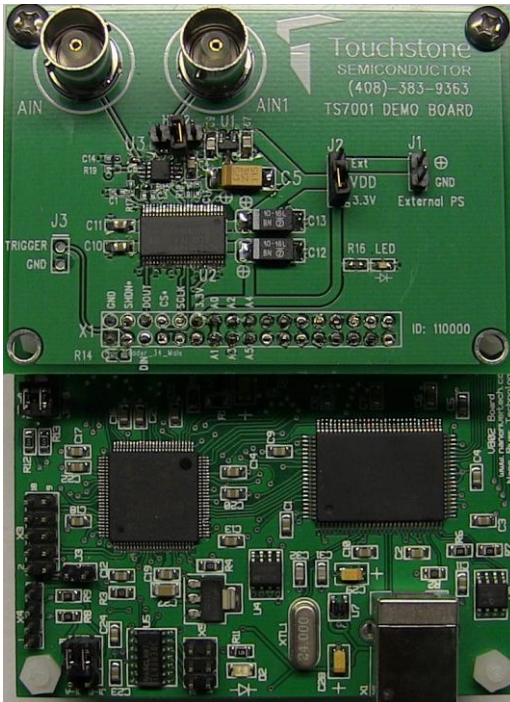
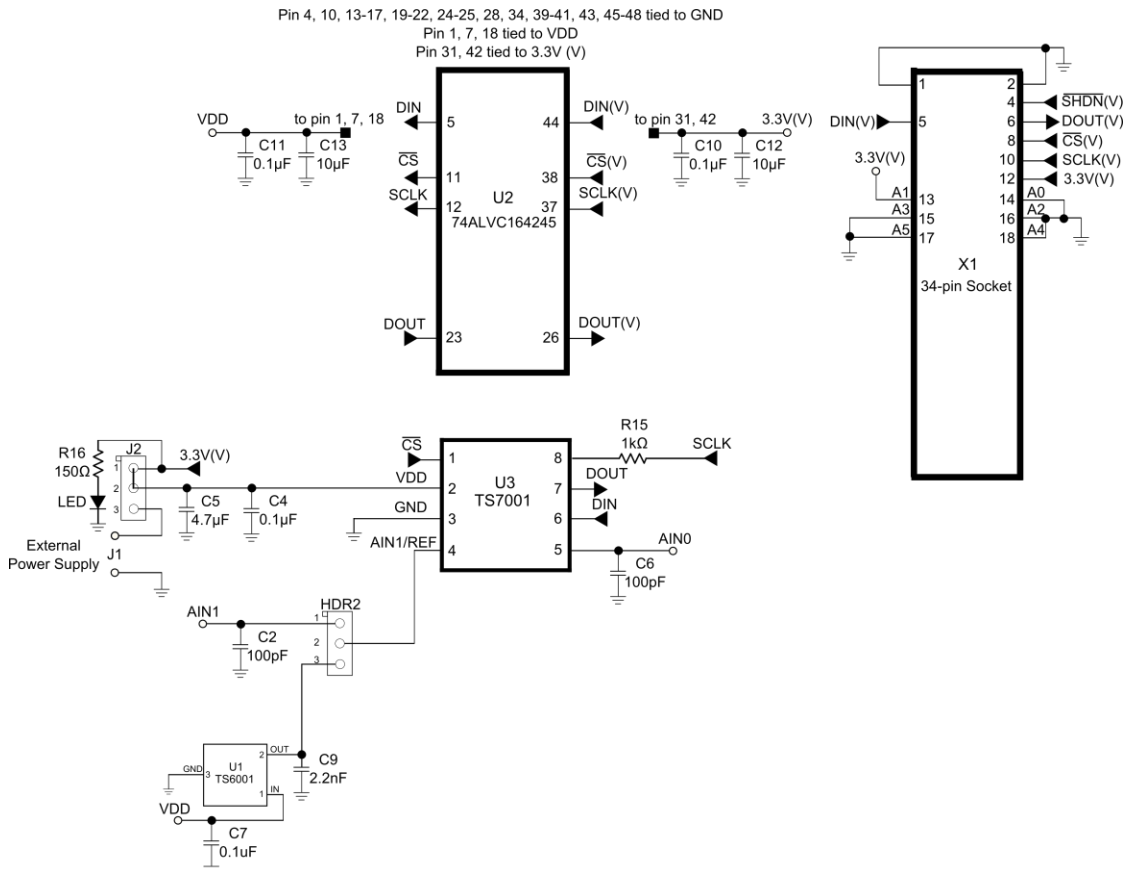

Figure 1. TS7001 Evaluation Board with Viperboard
Figure 5. TS7001 Evaluation Board Circuit
Figure 5 shows the TS7001 demo board schematic, Figure 2 and Figure 3 show a picture of the top and bottom of the TS7001 demo board, respectively. Figure 1 shows a picture of the TS7001 demo board with the viperboard connected.
In order to evaluate the TS7001, jumper J2 is to be set to position 2-3 and jumper HDR2 is to be left unconnected. The default configuration for J2 and HDR2 is 1-2 and unconnected, respectively. Refer to Figure 5 and Table 1. The default configuration on the board is for $V_{DD} = +3.3V$. For this evaluation, we will use an external +3.6V power supply and an external +3.6V reference voltage. The following steps are to be performed:
- 1) Set the voltage of the power supply between +2.7V and +3.6V and turn it off. Connect the positive terminal of the DC power supply to pin 12 labeled as “3.3V” on X1, and the ground terminal to pin 2 labeled as “GND”. Refer to Figure 5.
- 3) To measure the supply current of the TS7001, place jumper J2 to position 2-3. Then, apply an external power supply to J1. An ammeter can now be connected in series with the power supply for a static supply current measurement of the TS7001. The supply current should be less than 900 μ A. Please refer to Figure 5 and table 1.